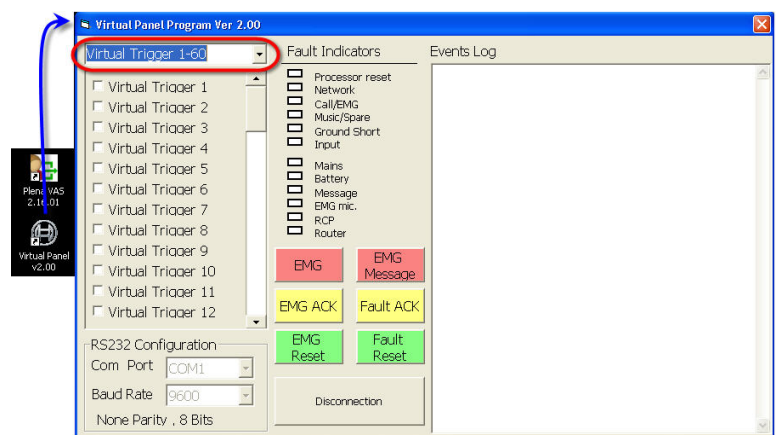

Figure 13 – Virtual panel v2.00 program
- 1) Start Virtual Panel Program v2.00 (figure 13)